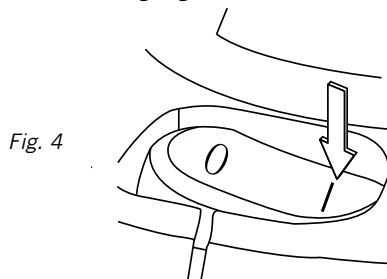

Fig. 4
- Plug the power cord into the outlet. Turn the motor on by flipping the on/off switch 13 to the 'I' ON position and begin vacuuming. Fig. 4.